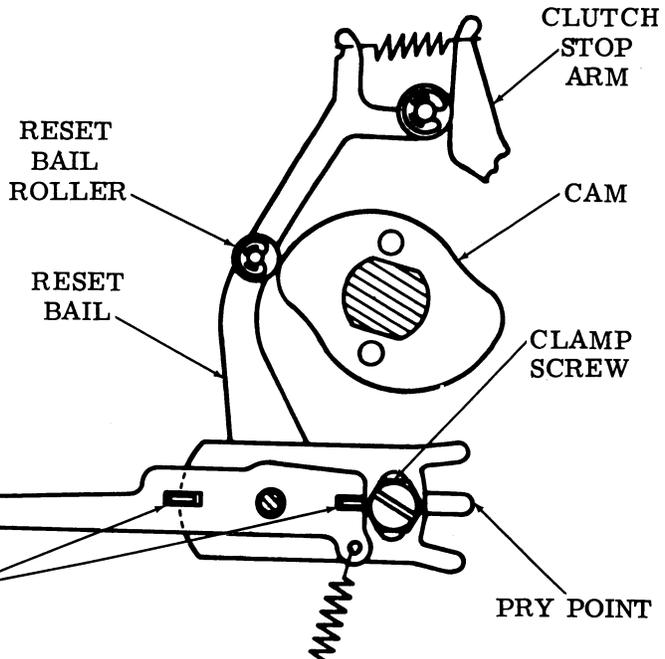

Figure 8 - Keyboard Trip Arm Adjustment
4.05 Keyboard Trip Arm: Adjust the keyboard trip arm as shown in Figure 8. To view the trip arm adjustment requirement, remove the keyboard housing by removing the two cover locating posts and the two screws under the housing.